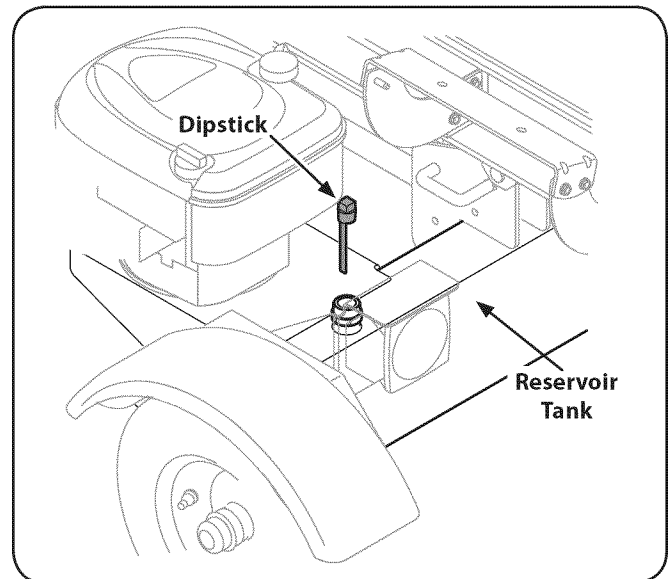

Figure 3-8
2. Remove the vented reservoir dipstick, which is located in front of the engine on top of the reservoir tank. See Fig. 3-8.
3. Check the fluid level using the dipstick. See Fig. 3-8. Do not overfill.